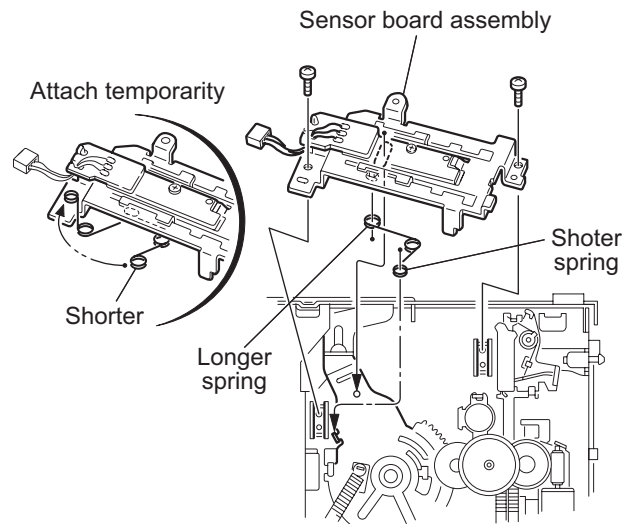

Fig.47
2.5.6 Mounting the sensor board assembly (See fig.47)